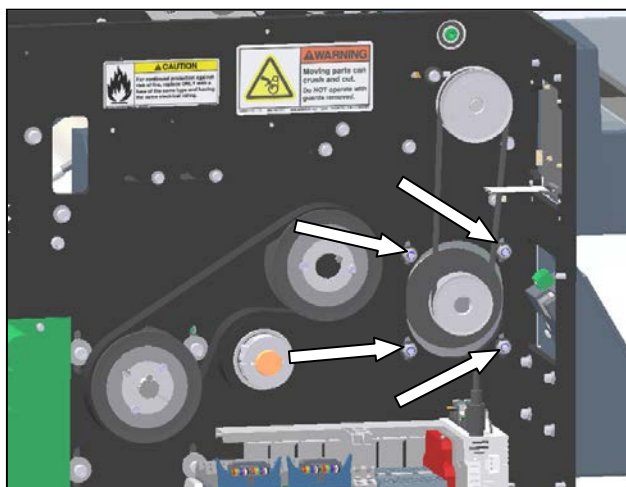

Figure 3-327. Film Feed Drive Motor Mounting
19. Reinstall the film feed motor drive belt. Apply downward pressure on the motor to tension the belt. At proper tension, the belt should deflect about $3/32$ " at the center of belt span using one finger to push the belt. When proper tension is achieved, tighten the four motor mounting screws (Figure 3-327).